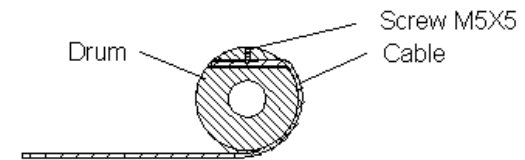

Fig.11
2. When inserting the wire rope into the drum, insert it into the correct end of the hole provided. (See Fig. 11) Tighten the setscrew tightly.